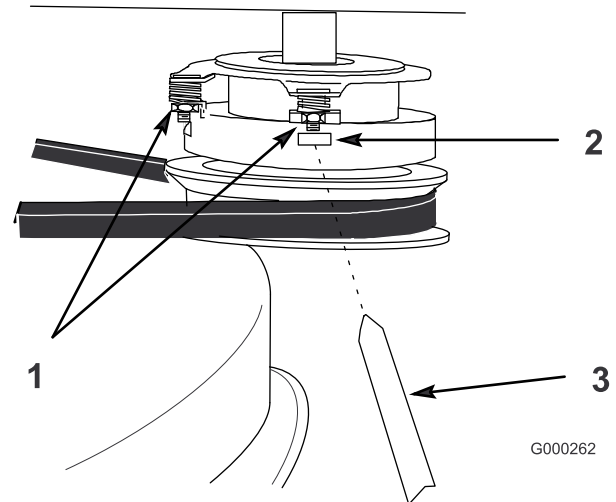

Figure 40
1. To adjust the clutch, tighten or loosen the lock nuts on the flange studs (Figure 40).
2. Check adjustment by inserting a feeler gauge through the slots next to the studs (Figure 40).